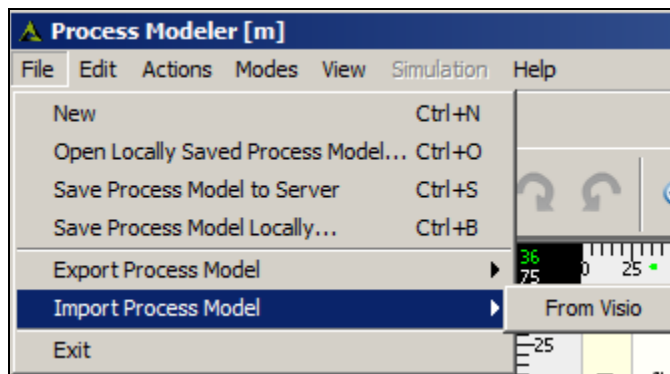

Figure 26: Import Process Model sub-menu
3. Click **From Visio** (see Figure 26).